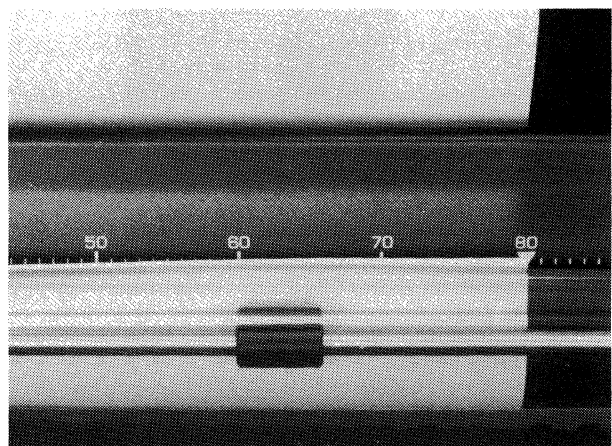

Figure 2-4D Paper at Top of Form
6. Move the leading edge of the paper down to the clear plastic tear-off edge (Figure 2-4D). This is the normal top of form position.